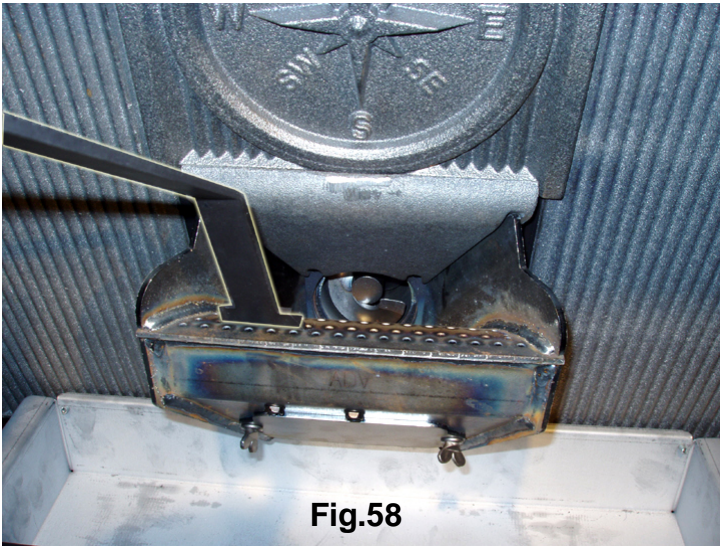

Fig.58
1. Scrape the top holed surface and sides of the burn pot down to auger tube.(Fig 58) It is not necessary to completely remove all material from the burn pot. The excess will be pushed out during the next use.